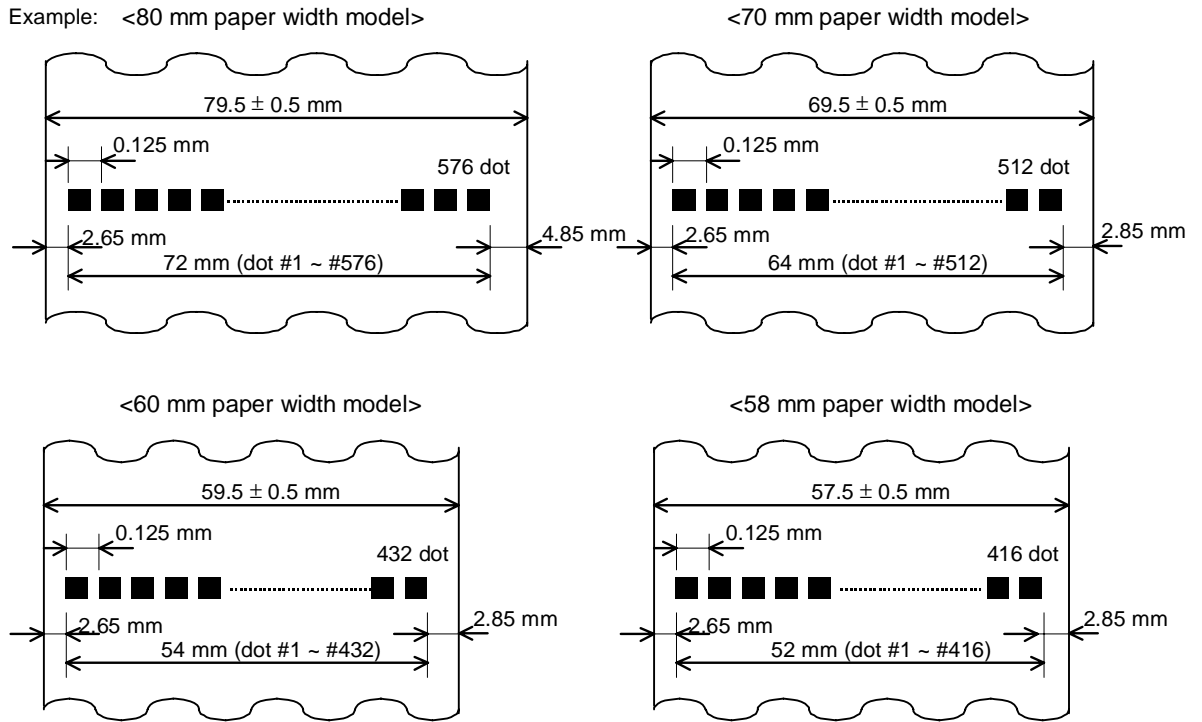

Figure 1.7.1 Printable Area (for Thermal Paper)
- NOTES: 1. The printable area may be out of alignment by 2 mm {0.08"} maximum (left or right), due to the paper position or tolerance of parts. Therefore, the print area must be set in the range of more than 2 mm from the edges of the paper. To make the margin for both sides safely, it is recommended to set a margin of 2.6 mm {0.1"} or more, as shown in Figure 1.7.1.